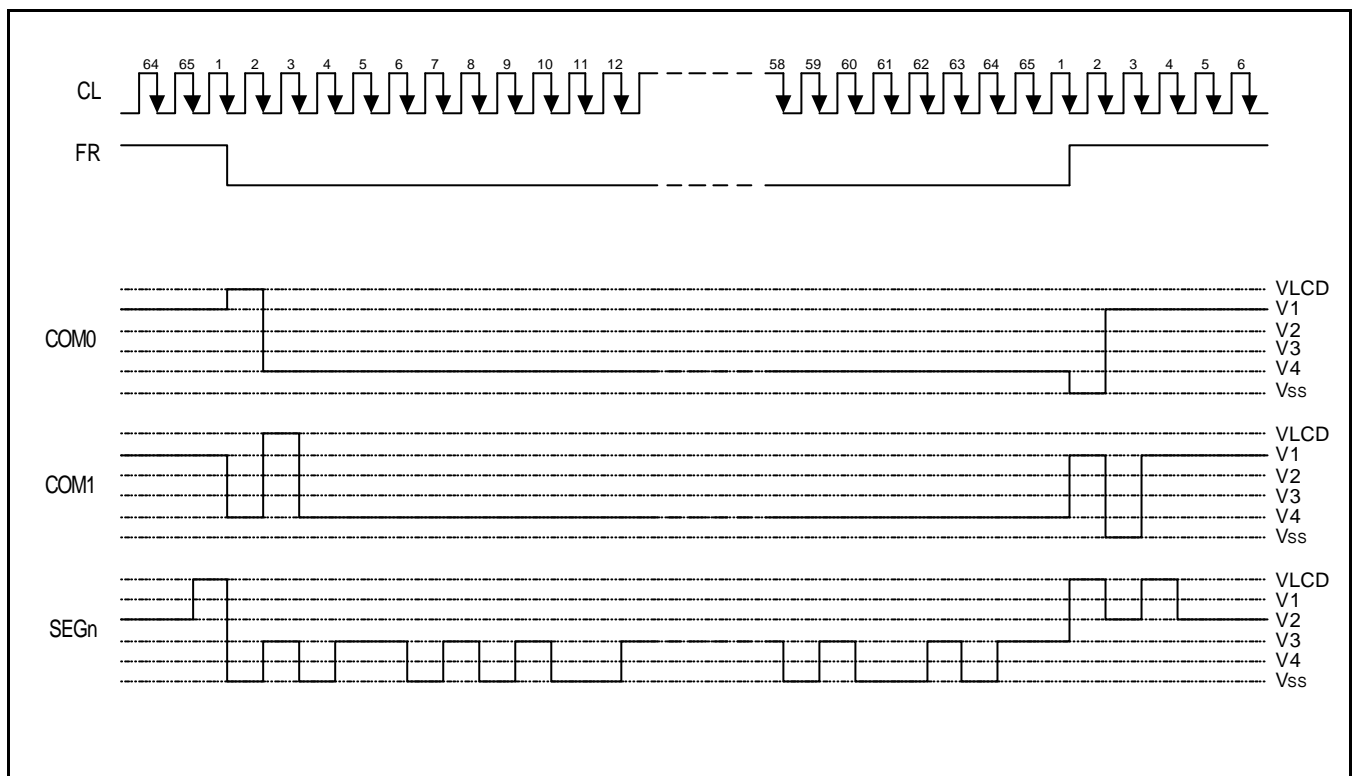

Figure 10. 2-frame AC Driving Waveform (Duty Ratio = 1/65)
This circuit generates some signals to be used for displaying LCD. The display clock, CL generated by oscillation clock, generates a clock to the line counter and a latch signal to the display data latch. The line address of on-chip RAM is generated in synchronization with the display clock (CL) and the 104-bit display data is latched by the display data latch circuit in synchronization with the display clock. The display data which is read to the LCD driver is completely independent of the access to the display data RAM from the microprocessor. The LCD AC signal, FR is generated from the display clock. 2-frame AC driver waveforms with internal timing signal are shown in figure 10.